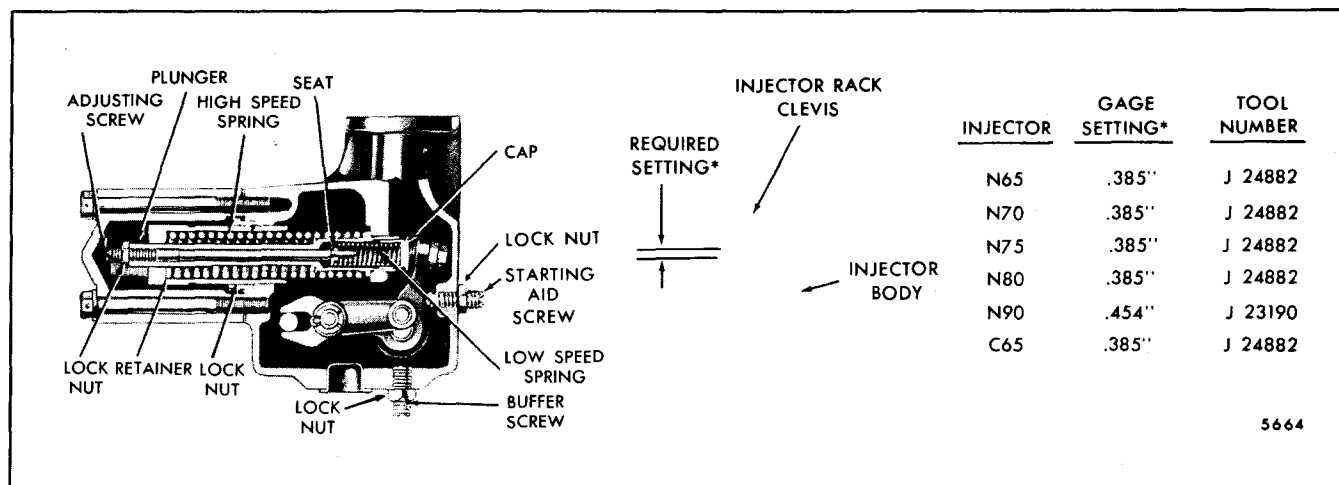

Fig. 6 - Adjusting Starting Aid Screw (Current Turbocharged Engines)
- Adjust the starting aid screw to obtain the required setting between the shoulder on the injector rack clevis and the injector body (Fig. 6). Select the proper gage and measure the setting at any convenient cylinder. When the starting aid screw is properly adjusted, the gage should have a small clearance of  $1/64$ " (.397 mm) in the space along the injector rack shaft between the rack clevis and the injector body.